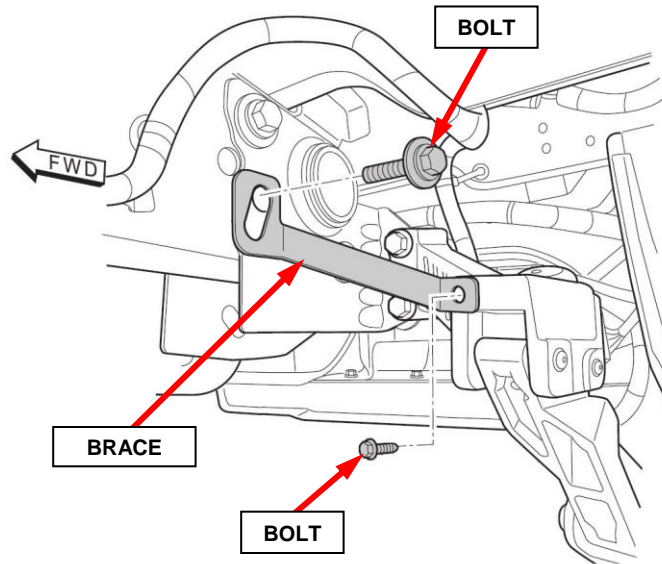

Figure 1 – Bed Step Brace
2. Remove and **SAVE** the two bolts securing the bed step brace (Figure 1).